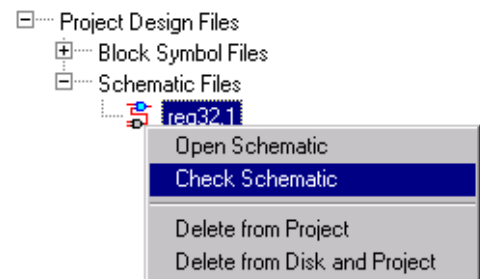

Figure 19 – Perform “Check Schematic”
11. Optional Step: Run *Check Schematic* on the REG32 block in order to perform some additional schematic checks not provided in ViewDraw (see Figure 19)